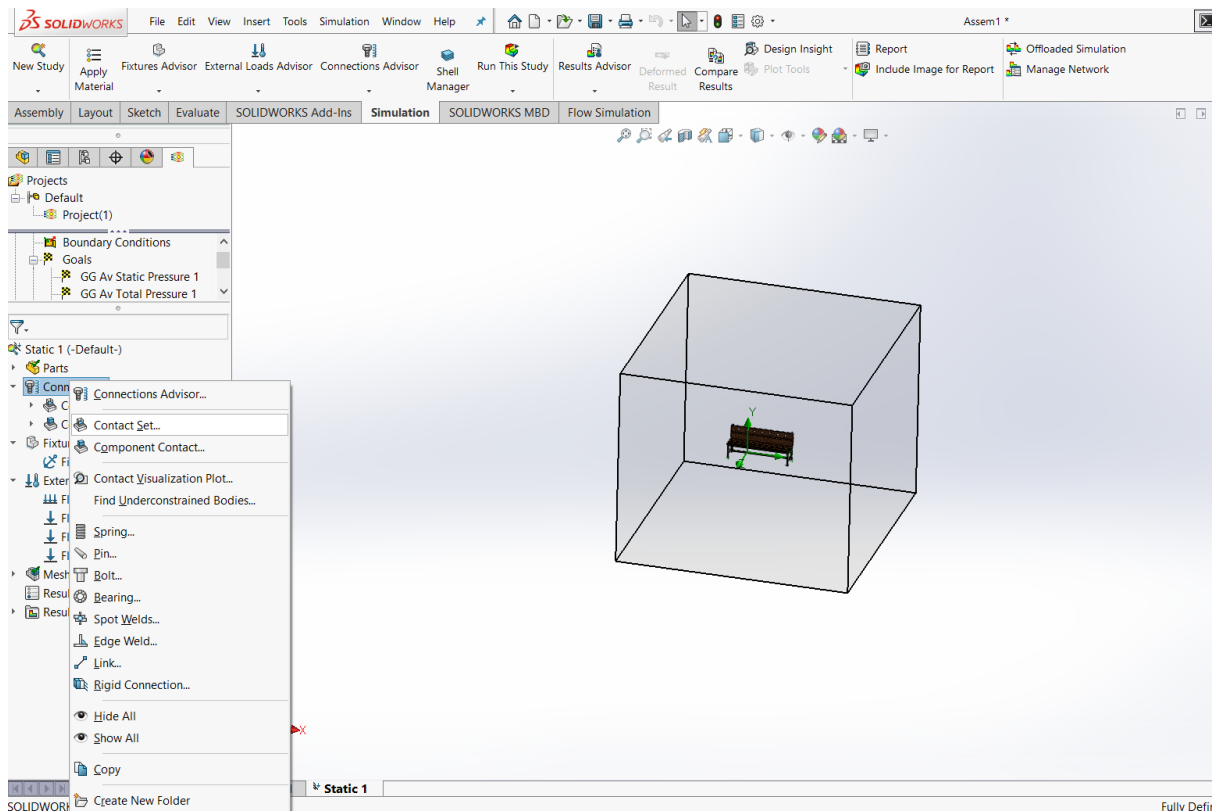

Figure 11: connections
4. Next step is the connections, right click on connections-> click on contact set, then the contact set dialogue box will appear, which is shown in the figure 11.